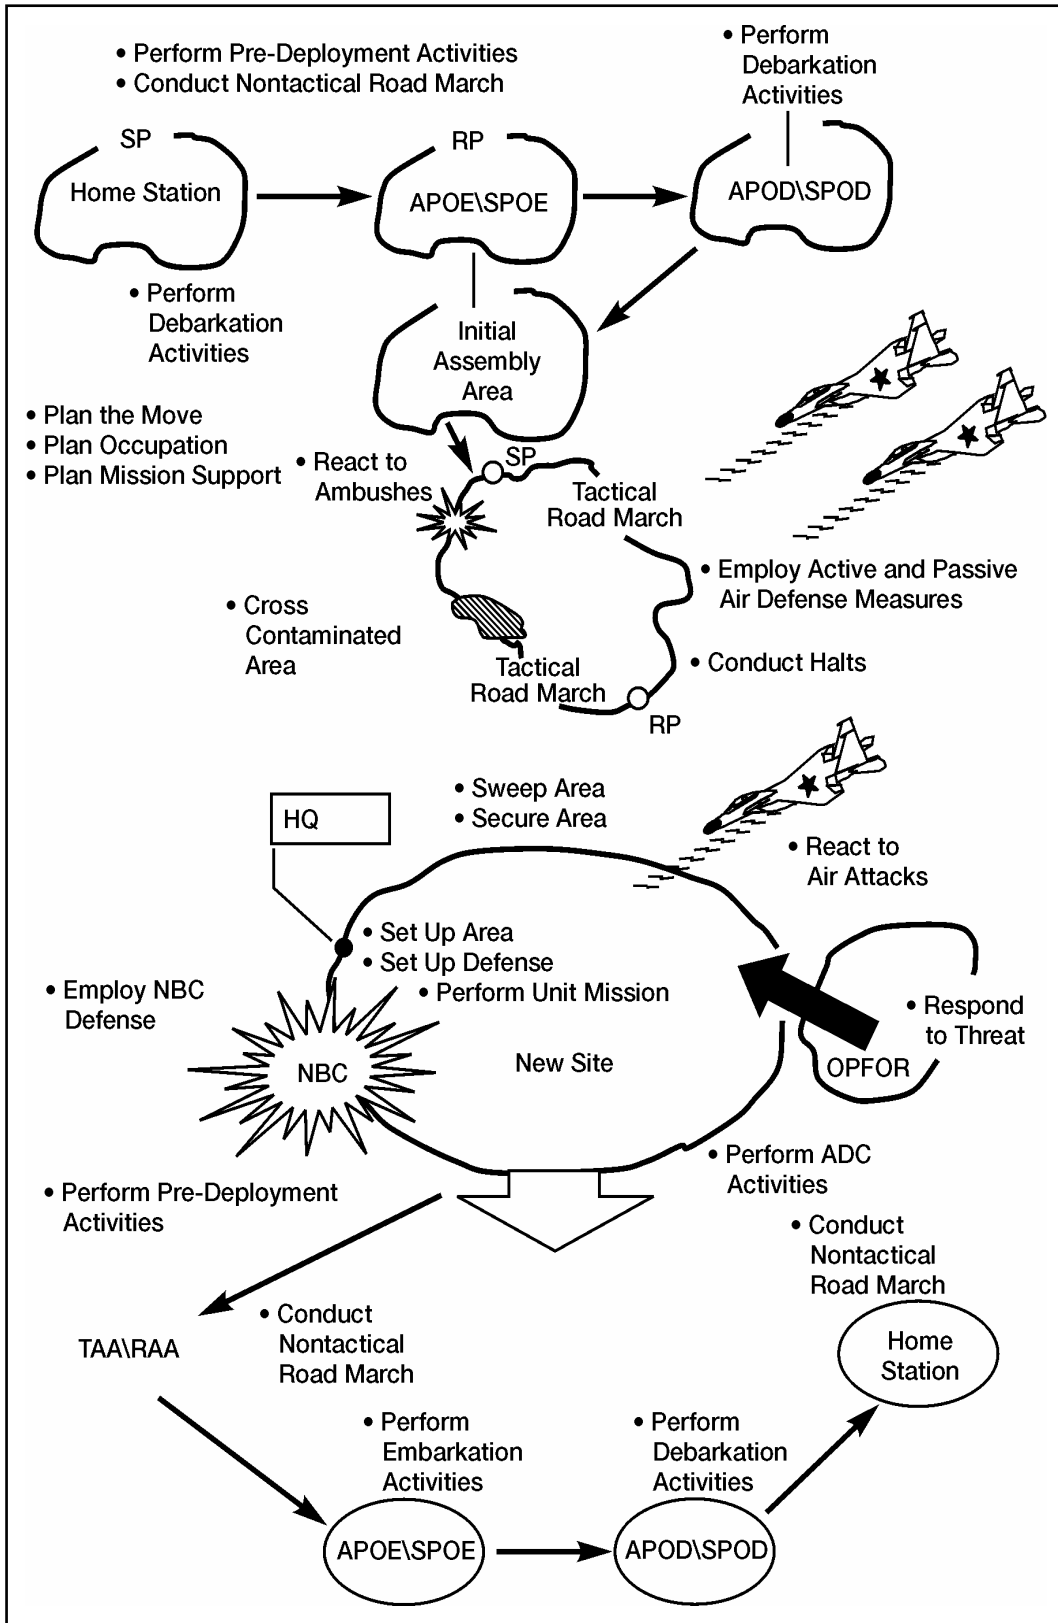

Figure 6-1. Example Graphic Scenario
a. Prepare the evaluation by developing a scenario containing the major missions and appropriate tasks. Compile the selected missions and tasks in the order they logically occur in the detailed scenario. Group the selected missions and tasks in parts for continuous operations. Parts can be interrupted at logical points to assess MILES casualties and conduct in process AARs. Selective tailoring is required, because it is not possible to evaluate every task. Figure 6-1 illustrates the general scenario of tasks performed in this exercise. The following procedures are suggested for developing the evaluation: